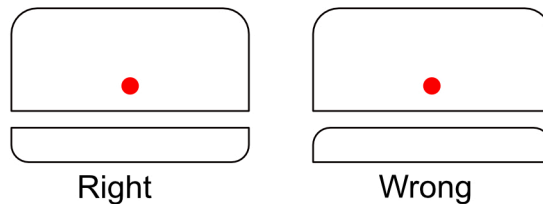

Figure 6.2: Sensor Orientation
- i. Using double-sided tape (included) or screw packet (include), install door transmitter module on entry door and magnetic sensor on door trim. (**Figure 6.2**)